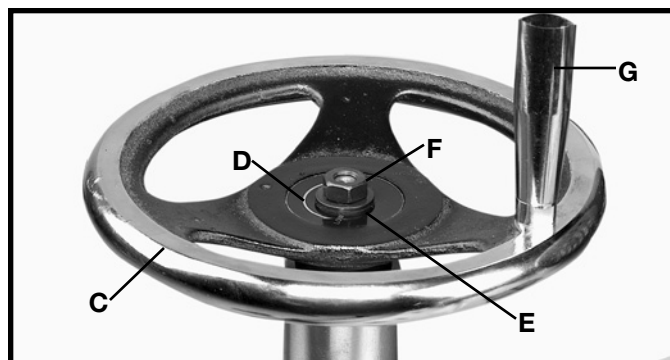

Fig. 8
2. Assemble handwheel (C) Fig. 8, to raising and lowering shaft as shown. Make sure key, which was assembled to shaft in **STEP 1**, is engaged with keyway in hub of handwheel (C).
3. Assemble decal (D) Fig. 8, to raising and lowering shaft as shown.
4. Fasten handwheel (C) Fig. 8, to raising and lowering shaft using an M10 flat washer (E) and an M10 hex nut (F) supplied.
5. Assemble handle (G) Fig. 8, to handwheel (C) as shown.